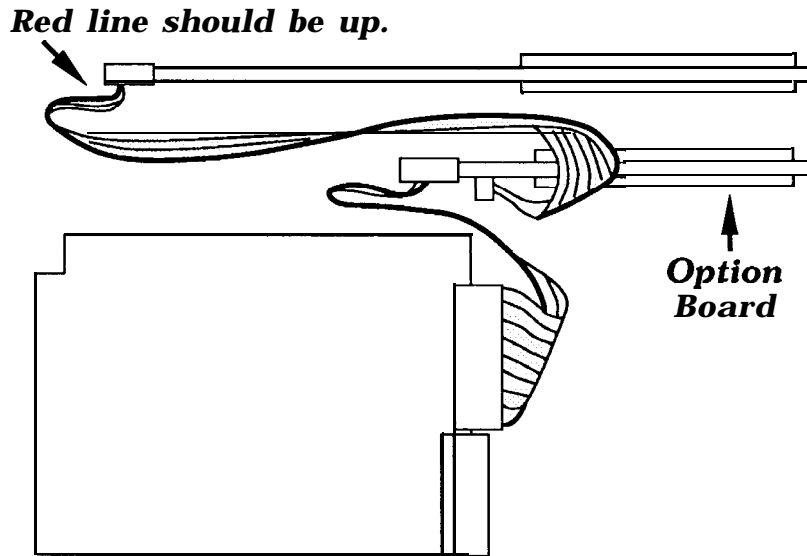

Figure 10
4. Connect the cable coming from the Deluxe Option Board to the floppy disk controller. This cable will plug into the edge connector on the floppy disk controller. The colored line on the cable should be oriented like the original when plugged into the floppy disk controller. You can fold the Deluxe Option Board's cable over the top of the Deluxe Option Board to make installation easier as shown in Figure 10: